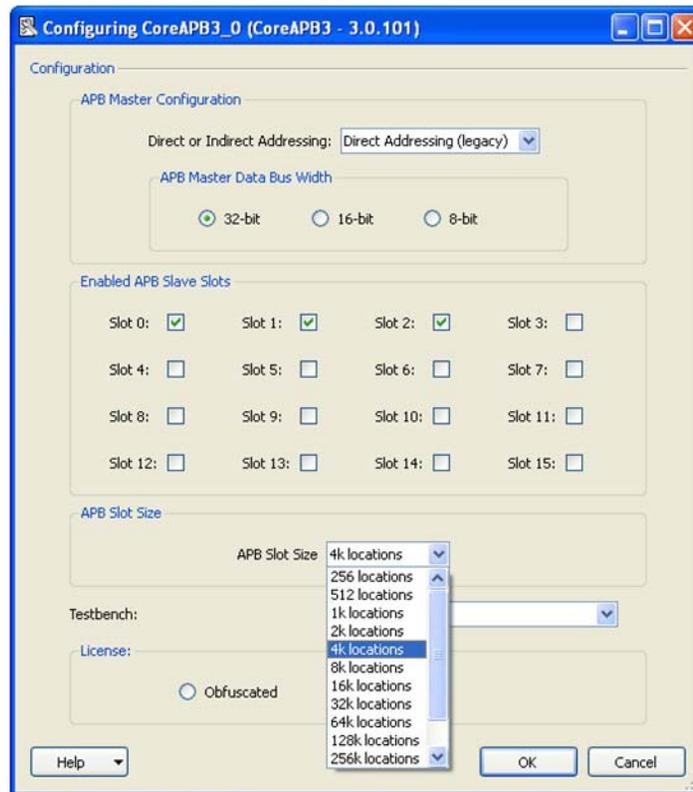

Figure 1-5 · Select the APB Slot Size
- Select the APB slot size as 4KB or below as shown in Figure 1-5. Assuming that you have selected 64KB slot sizes for CoreAHLite, then the maximum size of the slots on CoreAPB3 (16 slots) is 64KB/16 = 4KB when going through CoreAHBtoAPB3.